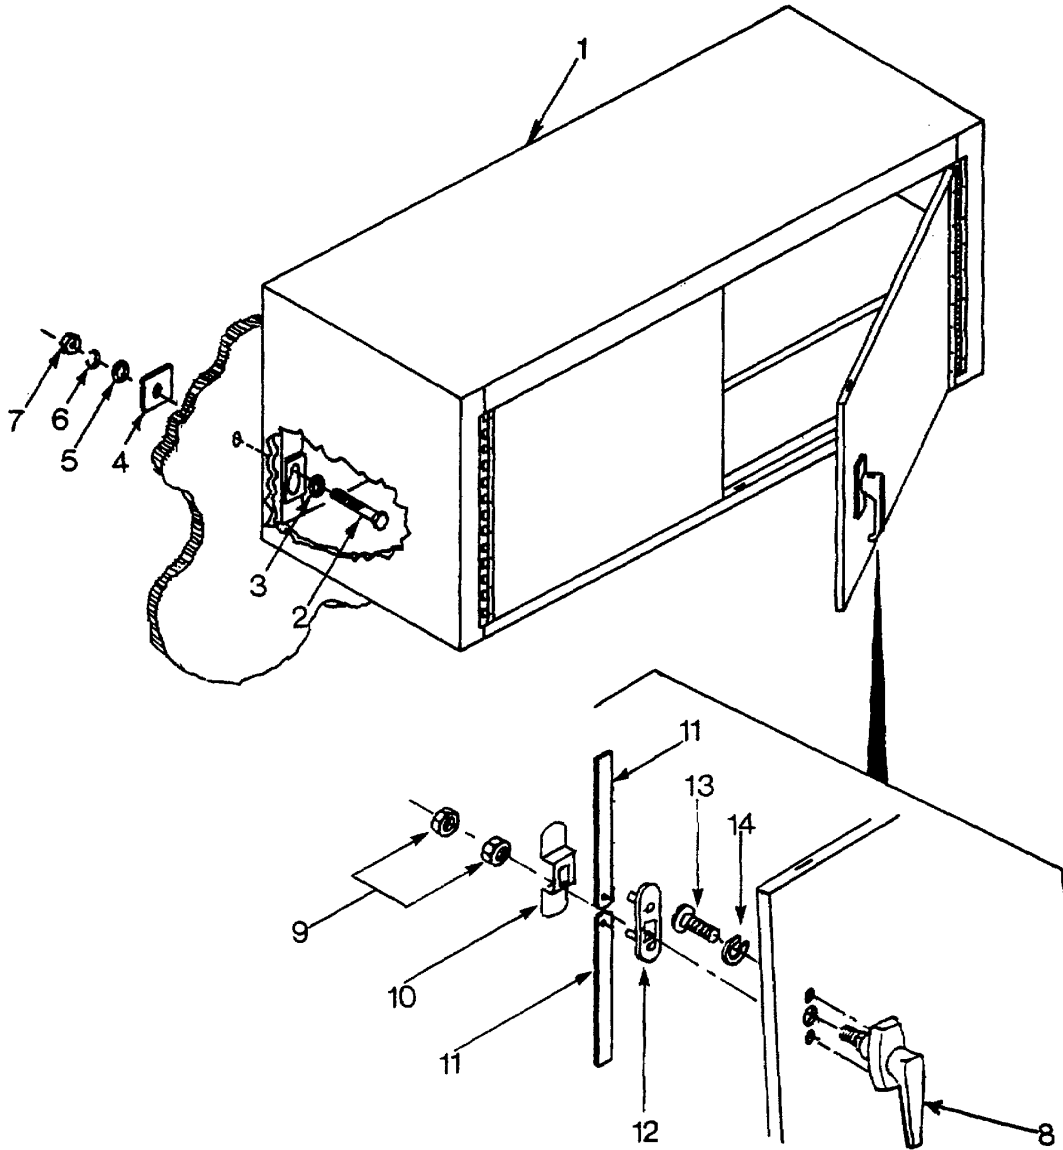

Figure 4-1. Wall Cabinet Assembly
#### a. Inspect. (See Figure 4-1.)
#### b. Replace. (See Figure 4-1.)
- b. Replace - Continued. (See Figure 4-1.)
**4-12. WALL CABINET ASSEMBLY.** - Continuedc. Repair. (See Figure 4-1.)
- (1) Replace door handle assembly.
- (a) Remove door handle assembly (8) by removing nuts (9) and retainer plate (10).
- (b) Remove rods (11) and backing plate (12).
- (c) Remove bolts (13), star washers (14) and door handle assembly (8).
- (d) Install replacement door handle assembly (8) and secure with star washers (14) and bolts (13).
- (e) Install backing plate (12), rods (11), retainer plate (10), and secure with nuts (9).
- (2) Remove minor dents and bends from wall cabinet body.
- (3) Remove minor dents and bends from wall cabinet shelf.
- (4) Repair welds as needed.
- (5) Replace handle assemblies if necessary.